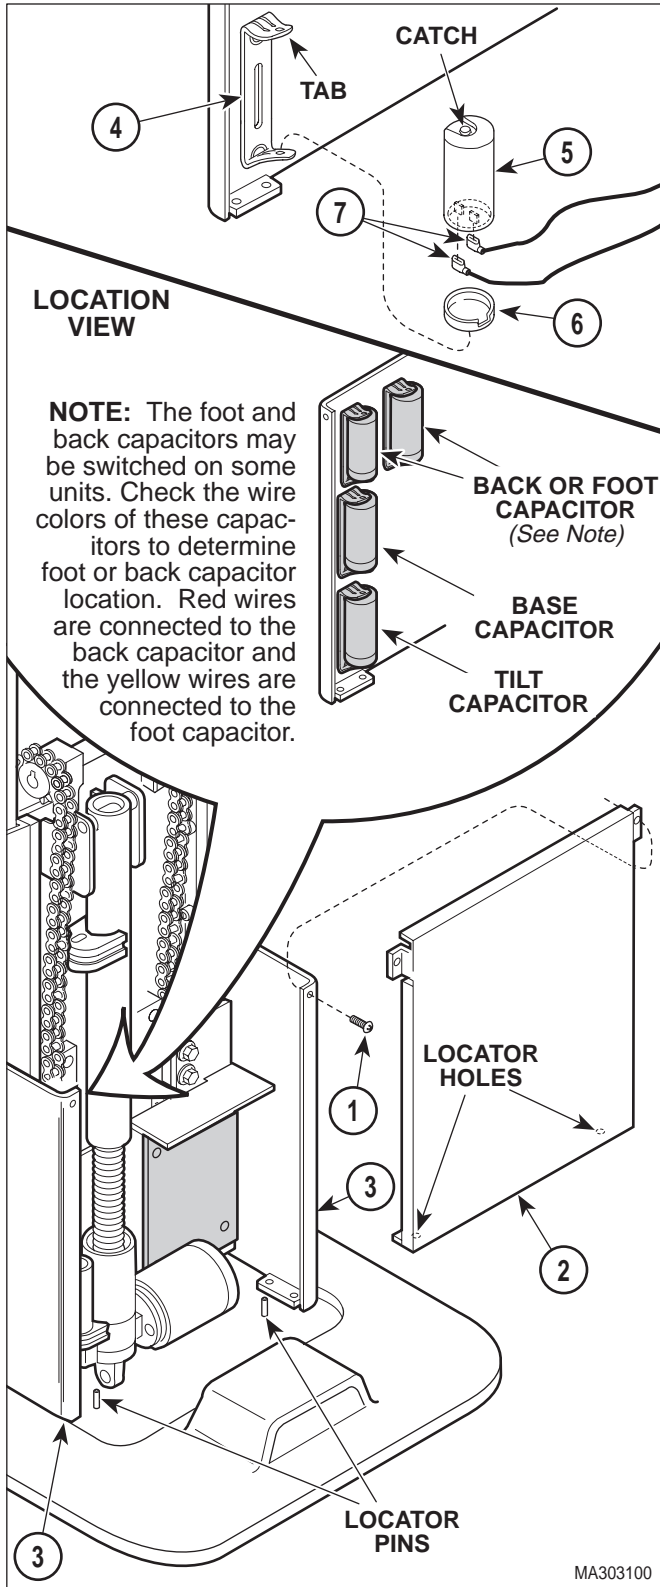

Figure 4-10. Typical Capacitor Removal / Installation
- (2) Unplug table power cord from wall outlet.
- (3) Remove shrouds as necessary (Refer to para 4.2 or 4.3).
- (4) Remove two screws (1, Figure 4-10) and back lower shroud (2) from R.H. and L.H. support channels (3).
- (5) If necessary, cut any cable ties securing wires to capacitor being removed.
- (6) Using a screwdriver, pry tab of capacitor mounting bracket (4) upward and remove capacitor (5) from capacitor mounting bracket.
- (7) Remove capacitor cap (6) from capacitor (5).